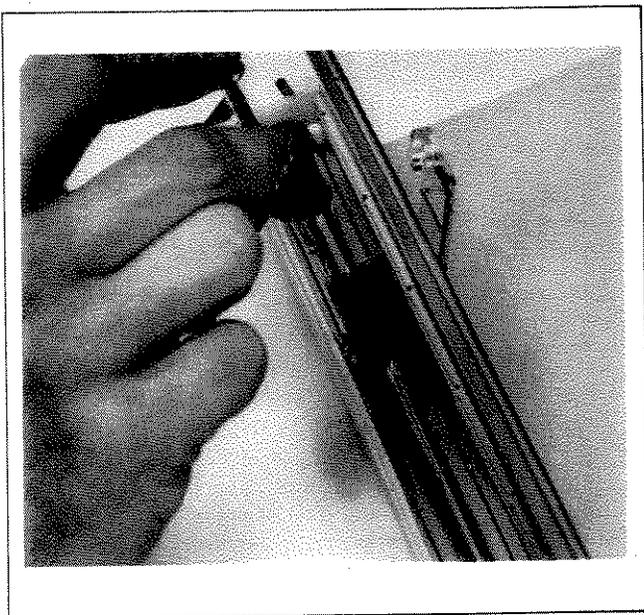

Figure 5-17. X-Axis Wiper Removal
- e. With a Pozidriv screwdriver in the notch in the power bracket, loosen the wiper mounting screw, and slide out the wiper assembly. (See Figure 5-17).